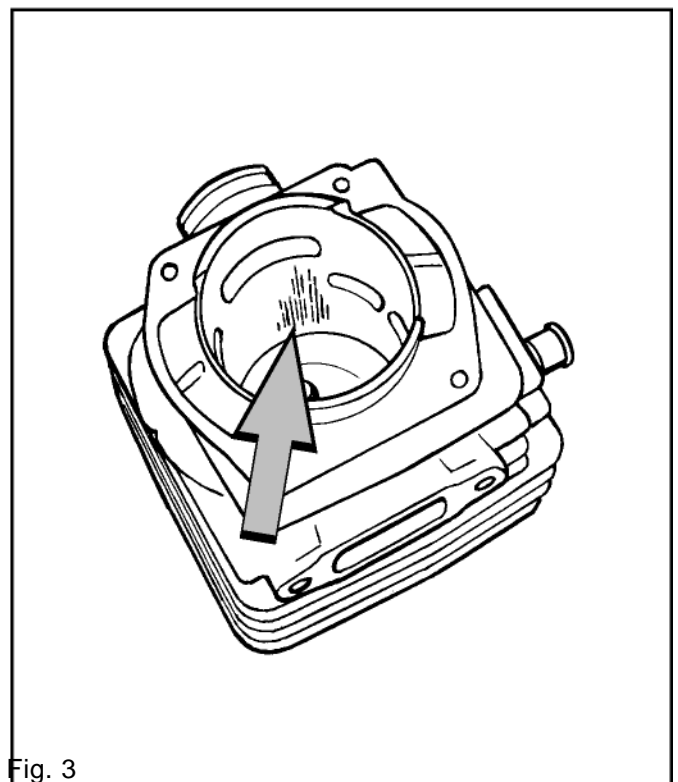

Fig. 3
7. Remove the bolt (F) from the flywheel side. See fig. 3.
1. The cylinders surface coating is not worn out, especially the upper part of the cylinder. See fig. 3.